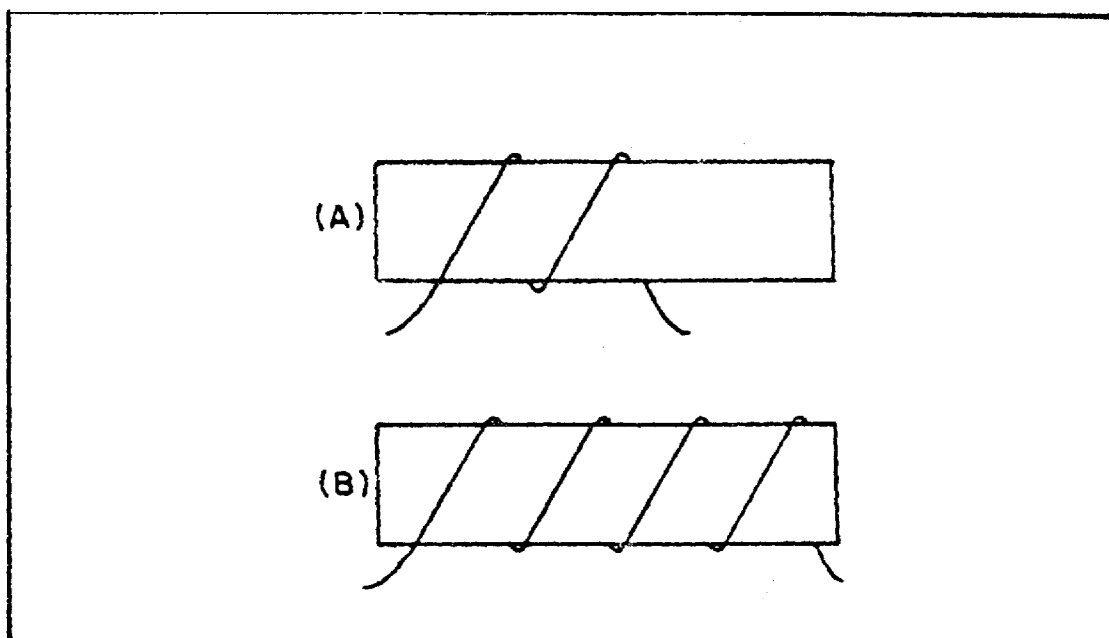

FIGURE 15. INDUCTANCE FACTOR (TURNS).
(a) *Number of Turns in a Coil.* Inductance depends entirely upon the physical construction of the circuit, and can only be measured with special laboratory instruments. Of the factors mentioned, consider first how the number of turns affects the inductance of a coil. Figure 15 on the following page shows two coils. Coil (A) has two turns and coil (B) has four turns. In coil (A), the flux field set up by one loop cuts one other loop. In coil (B), the flux field set up by one loop cuts three other loops. Doubling the number of turns in the coil will produce a field twice as strong; cutting twice the number of turns will induce four times the voltage. Therefore, it can be said that the inductance varies as the square of the number of turns.